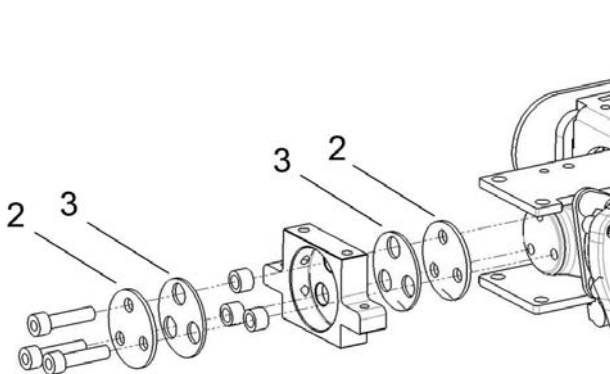

Fig. 6. Mount the actuator washers (6) and dampfer (7).
2. Mount the actuator washers (6) and dampfer (7). See fig. 6.